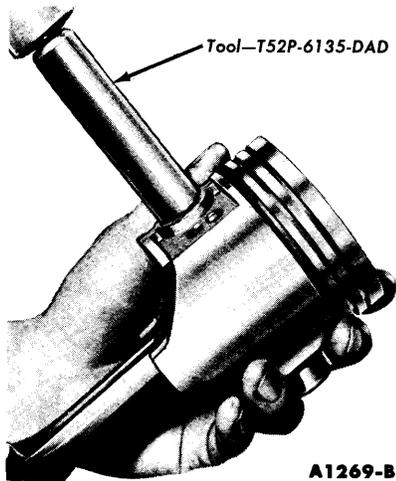

FIG. 62—Piston Pin Removal
2. Remove the piston rings. Remove the piston pin retainers. Drive the pin out of the piston and connecting rod (Fig. 62). Discard the retainers.